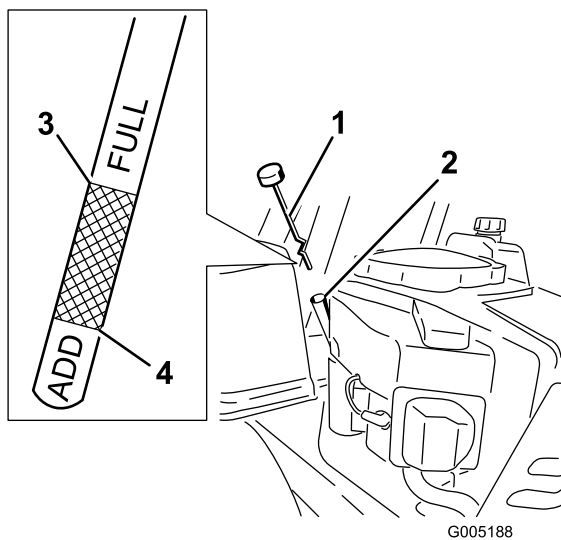

Figure 24
4. Unscrew and remove the dipstick; wipe oil off (Figure 24). Reinsert the dipstick into the tube and rest the cap on the tube. Do not screw the cap onto the tube.
5. Pull the dipstick out and check the oil level. (Figure 24).
8. Remove the oil fill cap/dipstick (Figure 24).
14. Slowly pour approximately 80% of the specified oil into the filler tube (Figure 24).
15. Install the oil fill cap/dipstick (Figure 24).
16. Check the oil level (Figure 24); refer to Checking the Oil Level.
18. Install the oil fill cap/dipstick and screw tight (Figure 24).